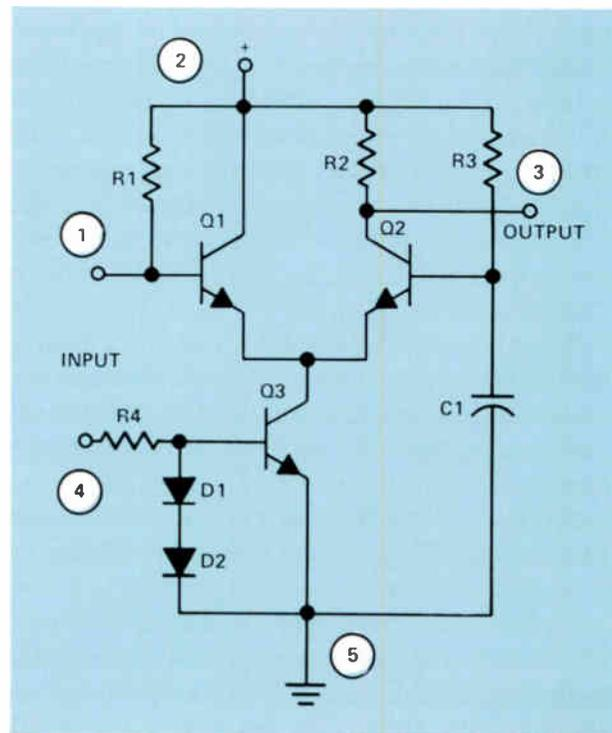

Figure 13. Differential amplifier with a constant-current sink.
**Constant-Current Circuit.** Figure 13 is a diagram of an integrated circuit using a modified form of the differential amplifier. Terminals 1 through 5 are terminals of the IC. The transistor Q3 is called a *constant-current sink* or a *constant-current source*. By this we mean that the current through Q3 remains essentially constant. Let's see how this works.
- 6 What is the purpose of Q3 in the differential amplifier of Fig.13?